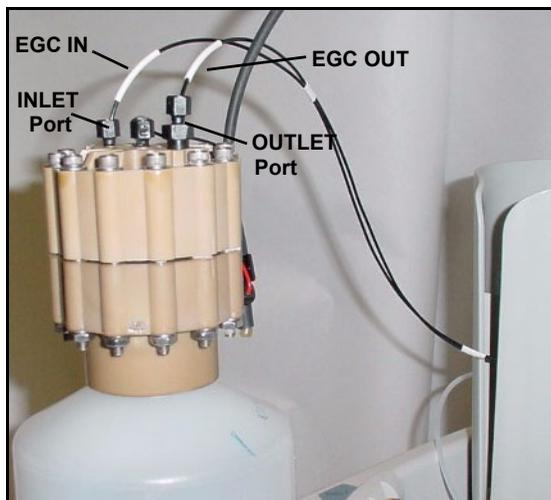

Figure 5-32. Disconnect the Inlet and Outlet Port Lines
8. Disconnect the **EGC IN** and **EGC OUT** lines from the **INLET** and **OUTLET** fittings on the EluGen cartridge (see Figure 5-32).